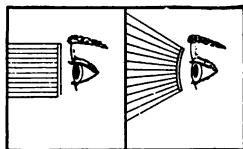

FIG. 103.—USE OF TORIC LENS
**125. Toric Lens.** Of late years the use of the meniscus lens (concave-convex) has been largely substituted in eyeglasses for the flat double convex lens of the same refractive power. In such a curved lens (Fig. 103) the distance of the glass from the crystalline lens of the eye is more nearly equal in all directions, instead of being considerably greater at the edges of the glass than at the center. Thus there is less necessity for a change in the focus of the eye lens when we look sideways or upwards. Furthermore, since the edges are nearer the eyeball our field of vision is increased.